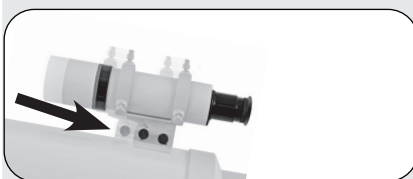

Fig. 9b: Viewfinder assembly. Slide bracket into slot.
9. Attach viewfinder bracket (Abb. 9b). Locate the viewfinder bracket screws (15, Fig. 1b and Fig. 9a) and remove the nuts from the screws. Slide the holes in the viewfinder bracket over the viewfinder bracket screws. Replace the nuts and tighten to a firm feel only.